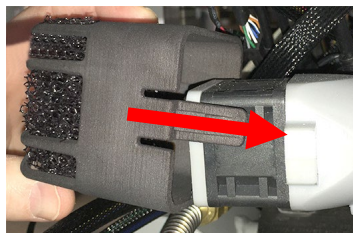

Figure 17
25. Install new fan filter (see Figure 17 & 18) and press  once complete.